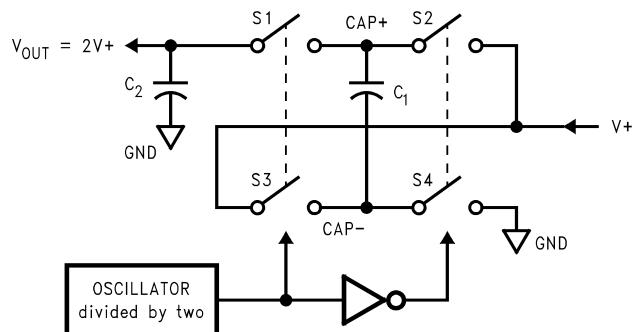

Figure 9-2. Voltage Doubling Principle
The LM2767 contains four large CMOS switches which are switched in a sequence to double the input supply voltage. Energy transfer and storage are provided by external capacitors. Figure 9-2 illustrates the voltage conversion scheme. When S_2 and S_4 are closed, C_1 charges to the supply voltage $V+$. During this time interval, switches S_1 and S_3 are open. In the next time interval, S_2 and S_4 are open; at the same time, S_1 and S_3 are closed, the sum of the input voltage $V+$ and the voltage across C_1 gives the $2V+$ output voltage when there is no load. The output voltage drop when a load is added is determined by the parasitic resistance ($R_{ds(on)}$) of the MOSFET switches and the ESR of the capacitors) and the charge transfer loss between capacitors. Details are discussed in Section 9.
- R_{sw} is the sum of the ON resistance of the internal MOSFET switches shown in Figure 9-2.